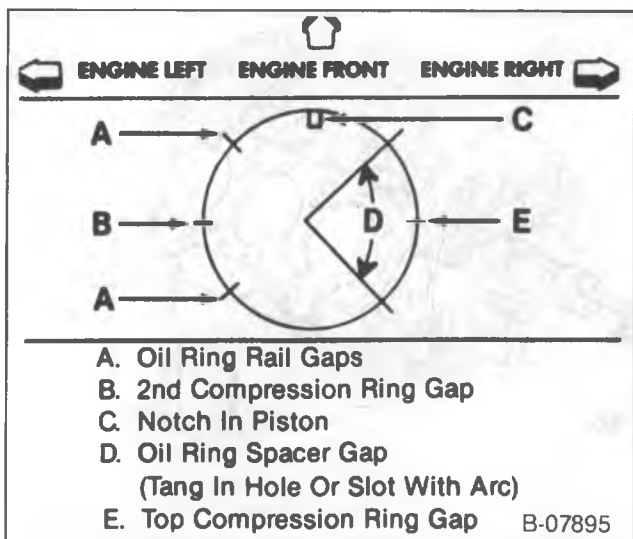

Figure 33—Piston Ring End Gap Locations
Install or Connect (Figures 33 through 35)
- Locate the piston ring end gaps as shown in figure 33. Lubricate the piston and rings with engine oil.
- The piston must be installed so that the notch in the piston faces the front of the engine (figure 33).